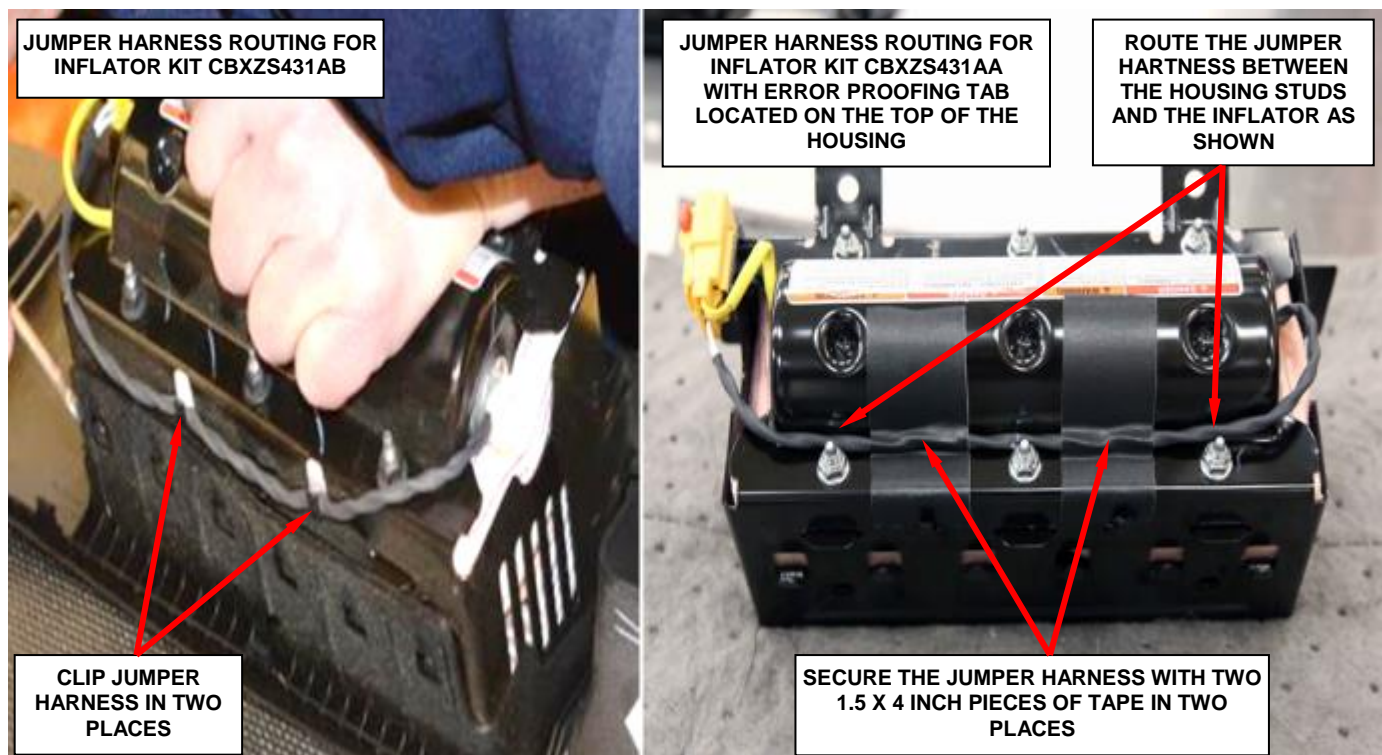

Figure 28 – Wire Jumper Routing
NOTE: The wire harness jumper routing is different depending on the location of the error proofing tab (Figure 28).
- p. Route the wire harness jumper on the housing (Figure 28).
- For vehicles using optional inflator kit number CBXZS431AB, clip the wire harness jumper to the housing in two places (Figure 28).
- For vehicles using optional inflator kit number CBXZS431AA with the error proofing tab located on the **top** of the housing, route the wire harness jumper to the housing as shown and tape in two places as shown (Figure 28).
NOTE: Use tape part number 68303542AB or equivalent. One 68303542AB patch can be cut into two pieces approximately 1.5 x 4 inches (Figure 28).